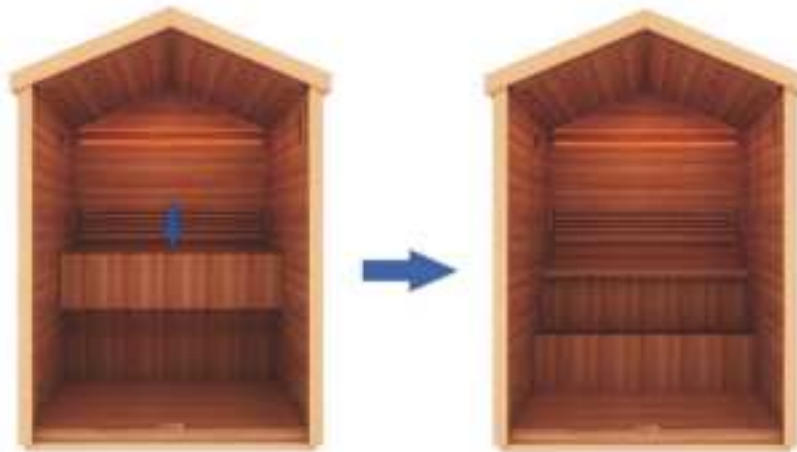

Figure 7
1. First, be sure to run the power cord for the lights through the hole in the wall underneath the Circuit Connection Junction box. For GDI-8506-01, locate the larger of the two BENCH SUPPORTS. This will be the upper BENCH SUPPORT. The upper BENCH SUPPORT (the larger of the two BENCH SUPPORTS) will need to be installed at an angle. See figure 7. Make sure to feed the power cable underneath the BENCH SUPPORT and that the BENCH SUPPORT slides all the way down. For both models, you can locate and install the lower BENCH SUPPORT. It will need to be installed at an angle as seen in figure 7a. Proceed to make the heater cord connections that will be hidden once the BENCH is installed. For GDI-8506-01, the lower BENCH SUPPORT heater cord can be feed through the upper BENCH SUPPORT in order to connect it to it applicable counterpart.